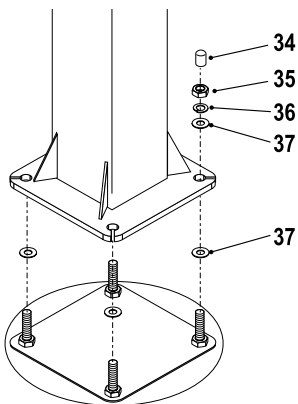

Figure 8
12. Put a flat washer (#37) on each anchor bolt. Lift post onto anchor system and secure with one flatwasher (#37), one lock washer (#36) and one hex nut (#35) for each anchor bolt. See Figure 8. Tighten all four hex nuts tight.